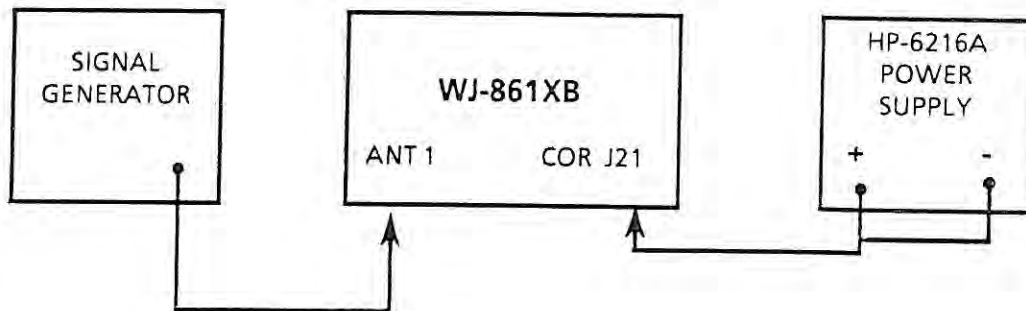

Figure H-2. COR Circuit Test, Equipment Connections
1. Connect the test equipment as illustrated in **Figure H-2**.